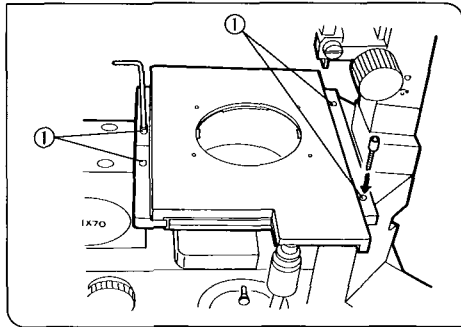

Fig. 11
- 2. Insert the four provided Allen screws into the mounting holes ①. Tighten the screws with the provided Allen wrench. (Fig. 11)